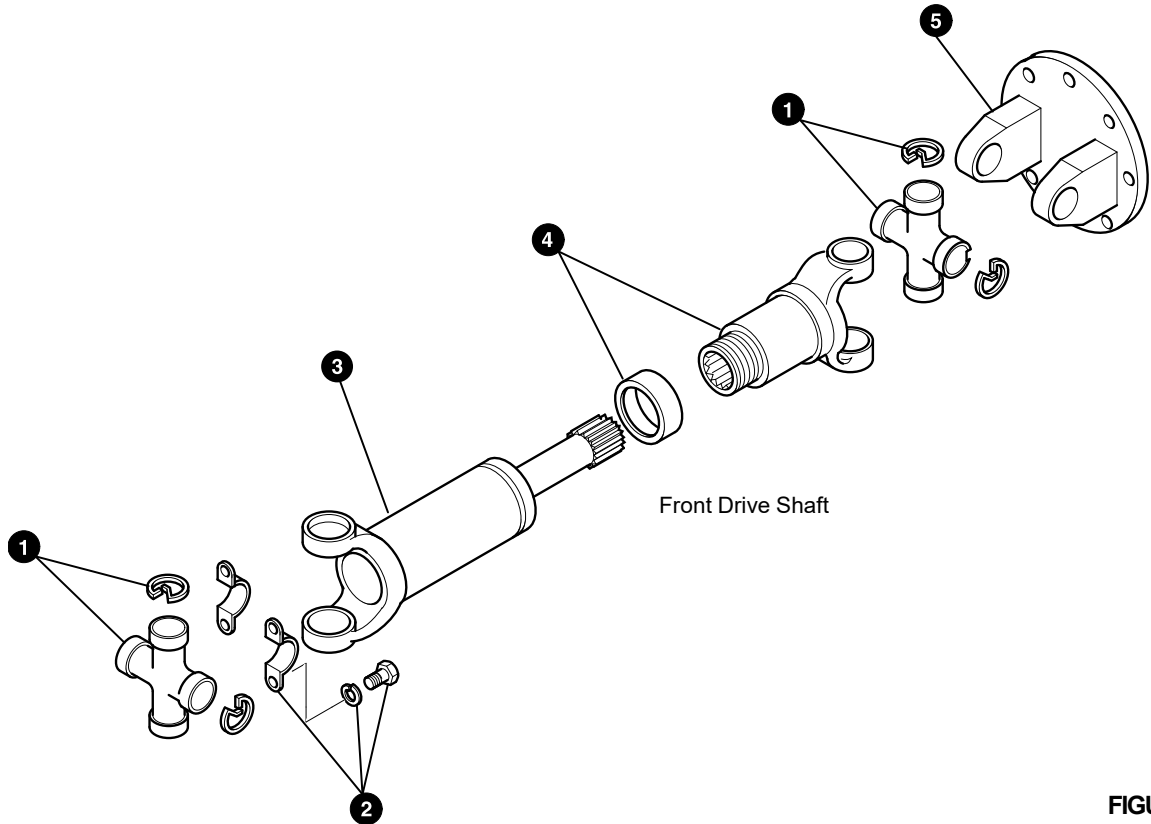
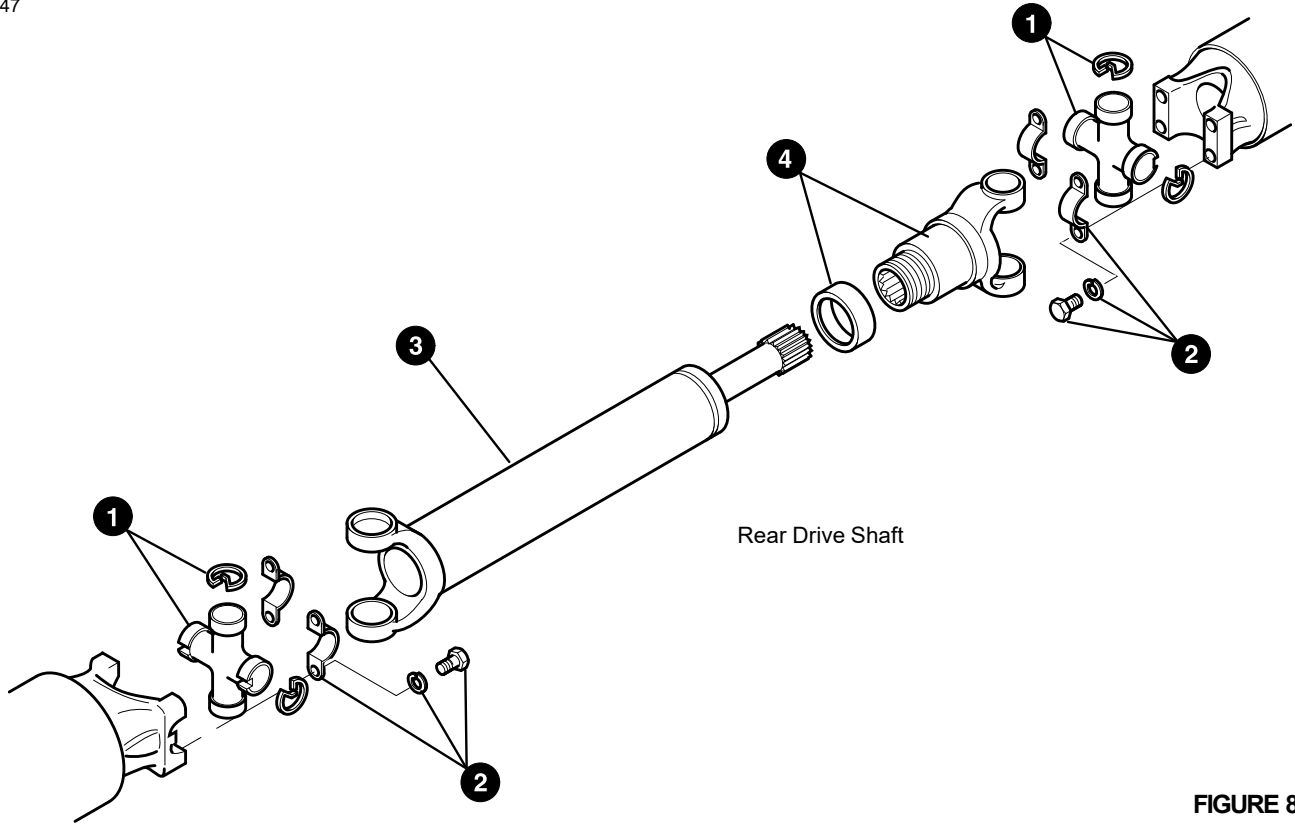

FIGURE 8-50
FIGURE 8-51
The retaining straps **2** Figure 8-50 and Figure 8-51 stretch with use, therefore these straps must always be replaced with new ones.
1. Remove bolts, lockwashers and mounting straps **2** Figure 8-50 from transmission.
1. Remove bolts, lockwashers and mounting straps **2**, Figure 8-50 from transmission.
1. Put the flange yoke **5** Figure 8-50 in a vice. Using pliers, remove two snap rings from the bearing caps in the flange yoke.
1. Remove two snap rings from the bearing caps in the slip yoke **4** Figure 8-51.
6. Apply SAE 140 oil to splines on the sleeve yoke **3** Figure 8-50 and Figure 8-51. Assemble the dust cap assembly to the sleeve yoke. Slide the sleeve yoke into the slip yoke (**4**). Make sure both ends of the drive shaft are in the same plane. Tighten the dust cap assembly.
5. Apply SAE 140 oil to splines on the sleeve yoke **3** Figure 8-50 and Figure 8-51. Assemble the dust cap assembly to the sleeve yoke. Slide the sleeve yoke into the slip yoke **4**. Make sure both ends of the drive shaft are in the same plane. Tighten the dust cap assembly.
1. Fasten the flange yoke **5** Figure 8-50 to the parking brake disc on the front axle with eight bolts, lockwashers and nuts.
1. Fasten cross **1** Figure 8-51 to the front axle yoke using a new strap kit **2**.